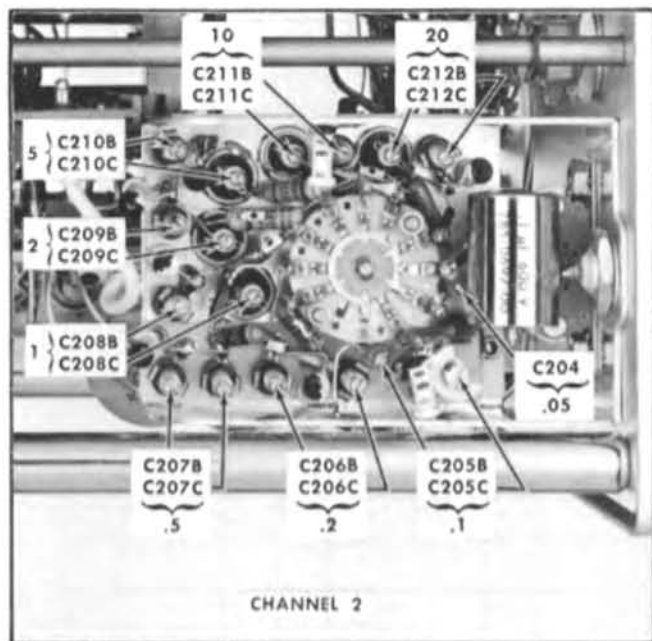

Fig. 7-28. Location of Channel 2 input shunt capacitance and attenuator adjustments associated with the VOLTS/CM switch position.
l. Using Table 7-2 and steps 21g through 21i as a guide, check and adjust, if necessary, the input shunt capacitance and the attenuator compensation adjustments for Channel 2. Fig. 7-28 shows the physical location of each Channel 2 adjustment.